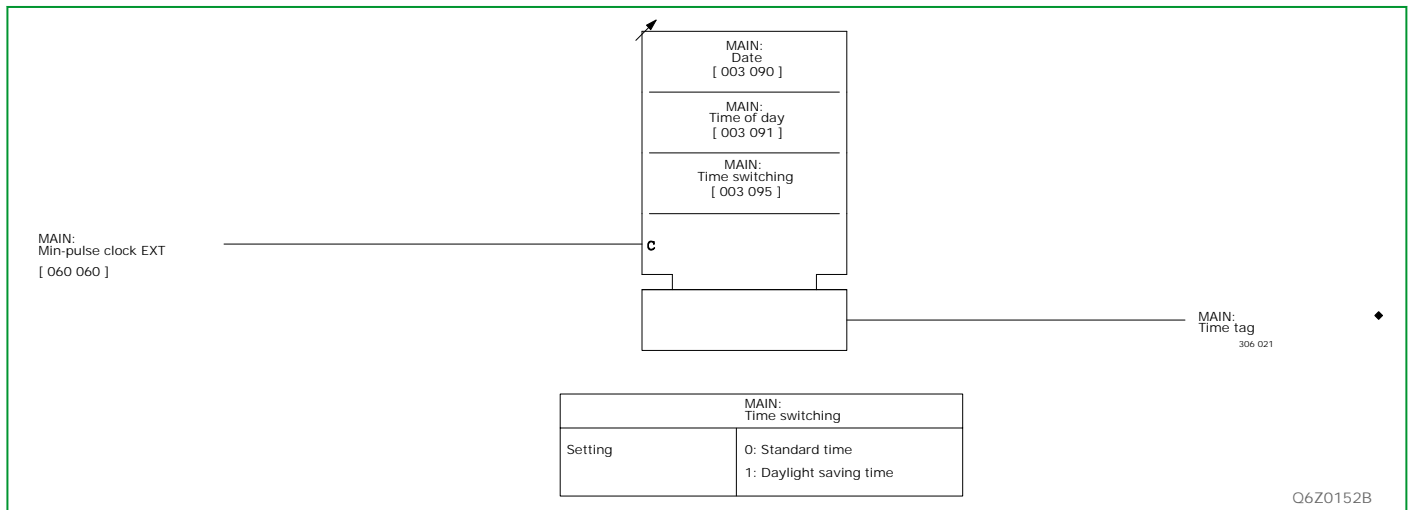

Fig. 3-64: Date/time setting and clock synchronization with minute pulses presented at a binary signal input.
- Impulse every minute via a binary signal input (MAIN), see Fig. 3-64, (p. 3-95) and the preceding section.